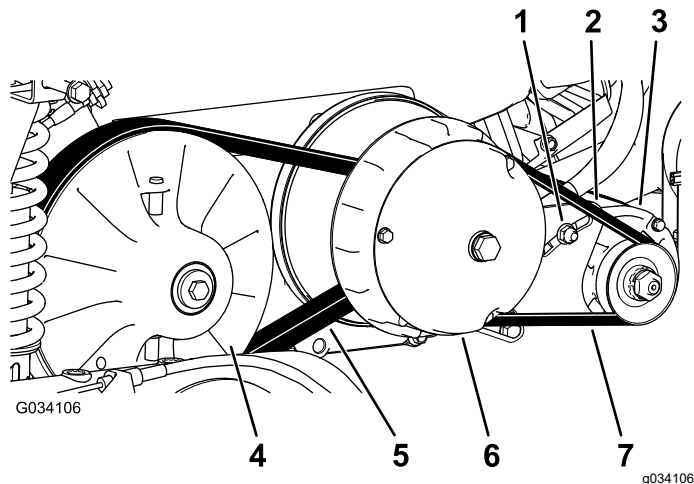

Figure 65
6. Rotate and inspect the belt (Figure 65) for signs of excessive wear or damage.
3. Rotate and route the belt over the secondary clutch (Figure 65).
4. Remove the belt from the primary clutch (Figure 65).
5. Align the new belt over the primary clutch (Figure 65).
6. Rotate and route the belt over the secondary clutch (Figure 65).
2. Loosen the pivot nut for the starter generator (Figure 65).
4. Apply downward pressure to the pry bar to rotate the starter down in the slot until the belt tension only allows 6 mm (1/4 inch) belt deflection with 44 N·m (10 ft-lb) of force (Figure 65).
5. Tighten the pivot nut hand tight, and remove the pry bar (Figure 65).